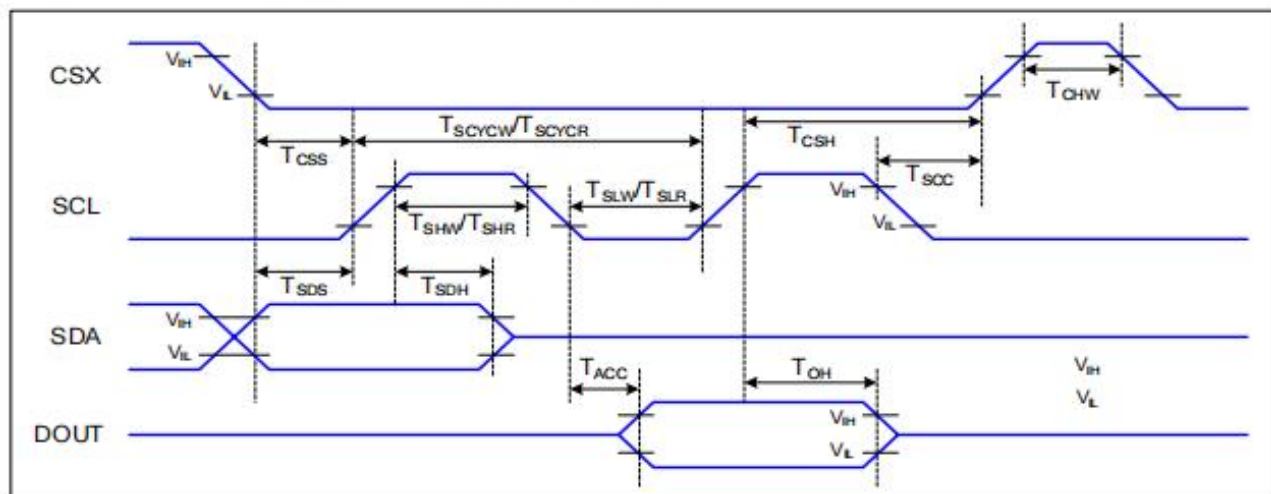

Figure 1 3-line serial Interface Timing Characteristics
2. Contrast measurements shall be made at viewing angle of $\theta = 0^\circ$ and at the center of the LCD surface. Luminance shall be measured with all pixels in the view field set first to white, then to the dark (black) state. (See FIGURE 1 shown in Appendix) Luminance Contrast Ratio (CR) is defined mathematically.